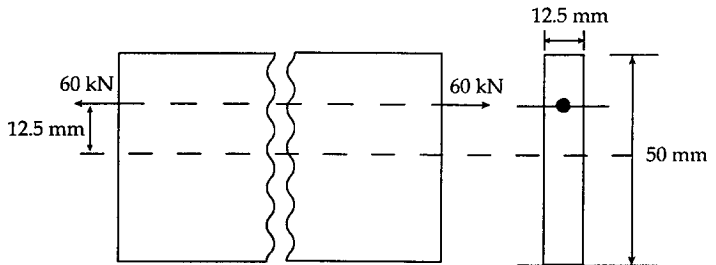

Fig. 6
7. A 50 mm by 12.5 mm flat steel bar was placed in a testing machine and subjected to 60 kN load whose line of action passed 12.5 mm from the axis. An extensometer placed in line with the load recorded an extension of 0.0065 mm over a gauge length of 10 mm. Calculate the max and min. stresses induced in the bar and modulus of elasticity. (see Fig. 6) 14